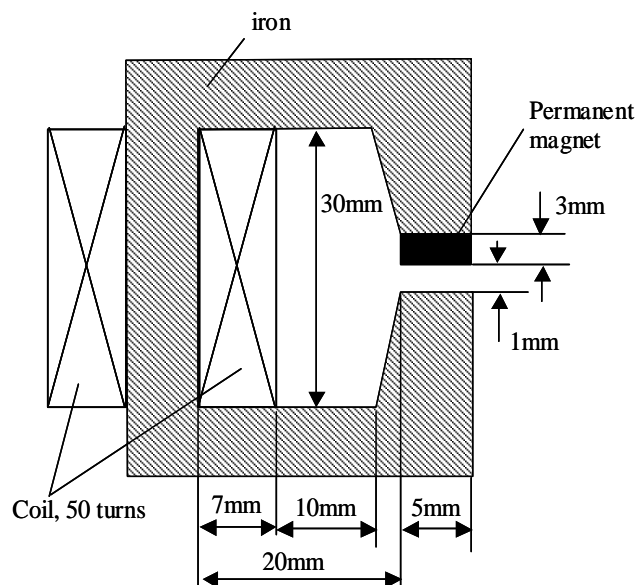

Figure 3
- b. Figure 3 shows a magnetic circuit having a permanent magnet and a coil in series. Calculate the winding inductance per unit length, assuming that leakage flux outside the iron circuit can be neglected and the formulae derived in (a) may be utilised.